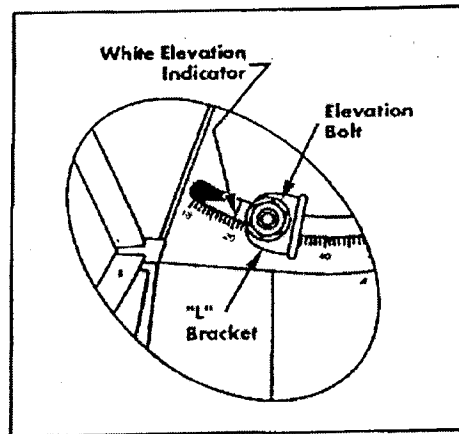

FIGURE 5
7. Make the **Initial elevation** adjustment per the value listed for your site location determined on Page 5. Be sure both bolts in the slots are 1/3 turn loosened from tight. Turn the long fine tune bolt until the **white painted clamp tab edge indicator** aligns with the desired elevation value on scale. See Figure 5. Note: For an easy quick coarse adjustment, use your left hand to lift upward slightly on the elevation bracket and then turn fine tune bolt with right hand.